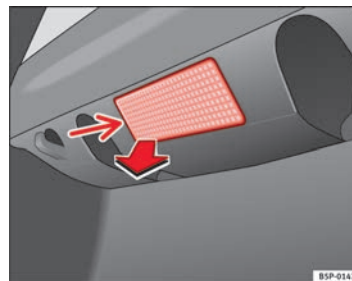

Fig. 190 Luggage compartment light
- Extract the bulb by pressing on its inside edge -arrow- using the flat side of a screwdriver ⇒ Fig. 190. ▶